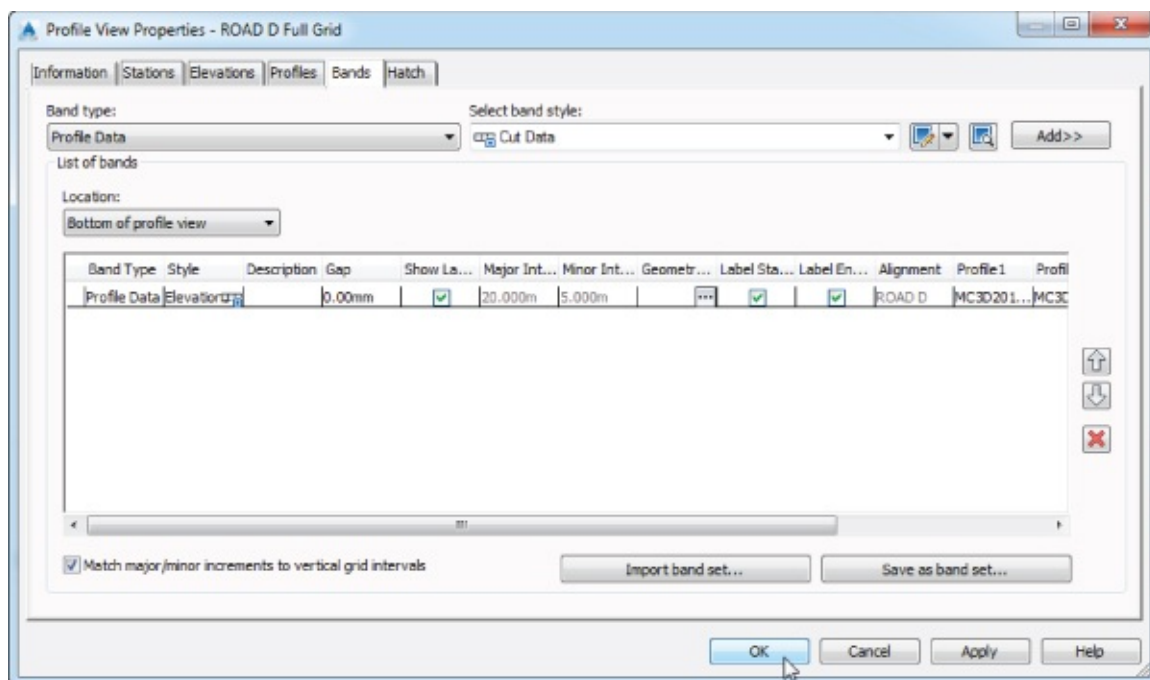

Figure 7.57 The Bands tab of the Profile View Properties dialog
4. On the Bands tab (Figure 7.57), in the List Of Bands area, verify that the Location drop-down is set to Bottom Of Profile View and notice that an Elevations And Stations band has already been set during the creation of this profile view.